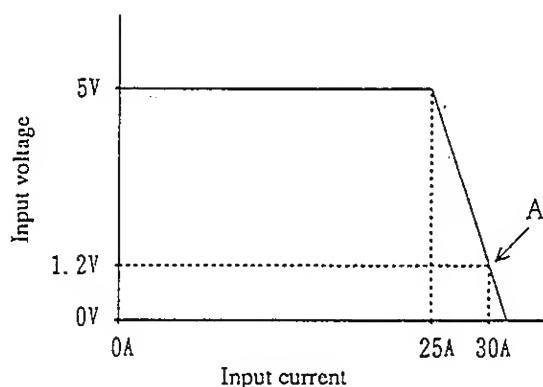

Figure 3.5-13
- Data [30.00A] at the left hand end on the top row indicates that the current limit of the regulated DC power supply is at point "A" (30.00 A) on the droop curve shown in Figure 3.5-13. Data [1.20V] also indicates a value under the similar conditions. In this case the I SET value is at 30.00 A.